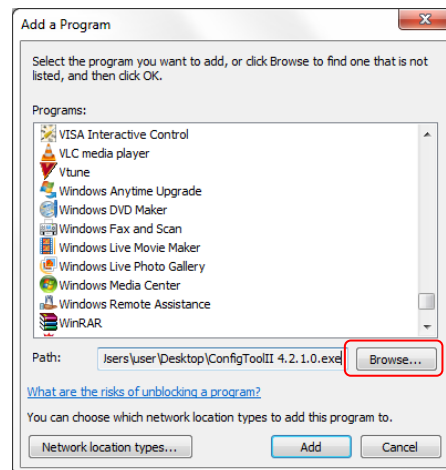

Figure 87 - Browsing for executable to add
5. Click the “Browse...” button. Refer to Figure 87.